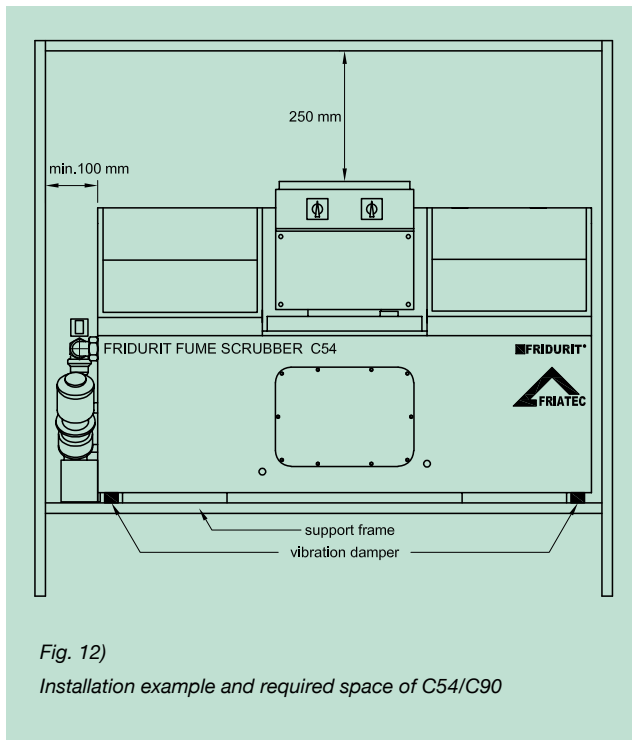

Fig. 12)
- The equipment cannot be placed directly on the base as, due to the design, both sidewalls of the fume scrubber protrude approx. 18 mm over the lower edge. The equipment should therefore be placed on vibration dampers at suitable locations (see Fig. 12).
The following clearances must also be provided for maintenance and repair work (see Fig. 12):